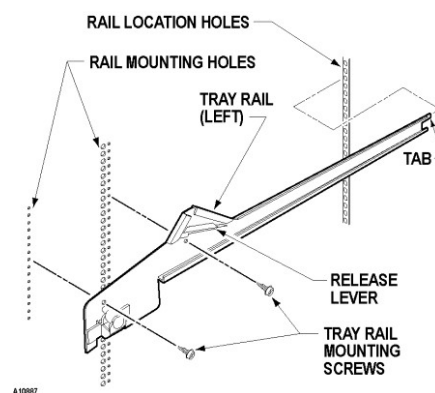

Figure 4: Tray rails
6. Locate the release levers on the left and right tray rails. (see figure 4) Swing the release levers all the way up to unlatch.